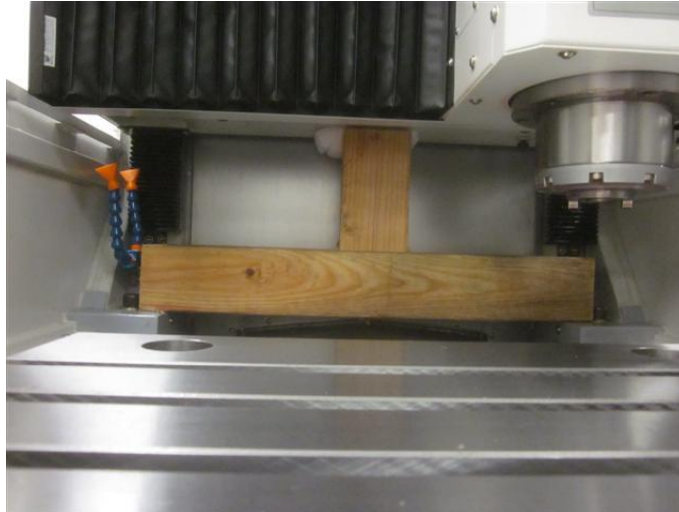

Figure 3.2
2. Unfasten the head support bracket as shown in figure 3.2.